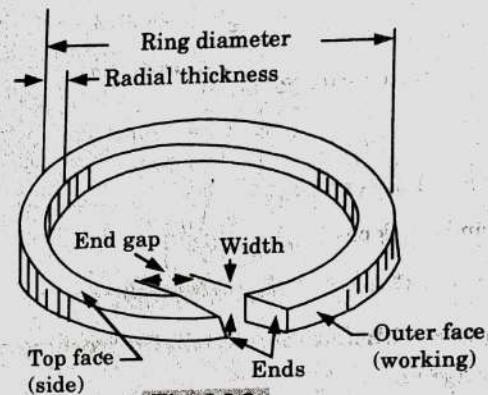

Fig. 2.3.2.
1. The construction of piston ring and nomenclature of its various parts is shown in (Fig. 2.3.2).